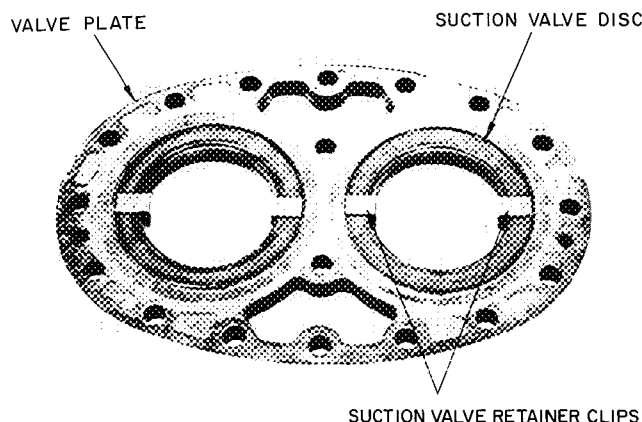

Fig. 42 — Valve Clips in Place
2. Place suction valve disc on valve springs; press disc into valve plate recess. Slide valve retainer clips into place (Fig. 42). Locate clips so they do not cover valve lifter springs or pins. Valve retainer clips 5F20-2061 (5F compressors) or 5H40-2061 (5H compressors) are field supplied.